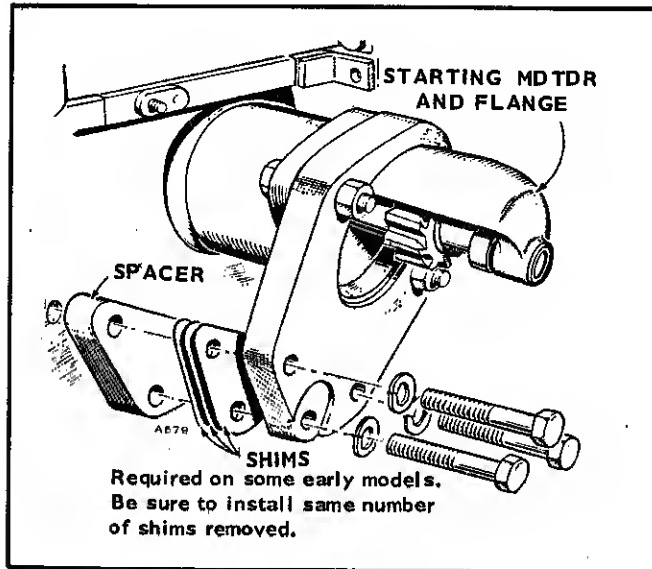

FIGURE 53. ADDING SHIMS
**NOTE:** On plants built before May, 1962, it was necessary to maintain the gap between ring gear and starter pinion in the relaxed position at less than 1/8" to ensure starter engagement. When installing these motors, check this gap. If it is too great, a shim kit is available to reduce it (Figure 53).